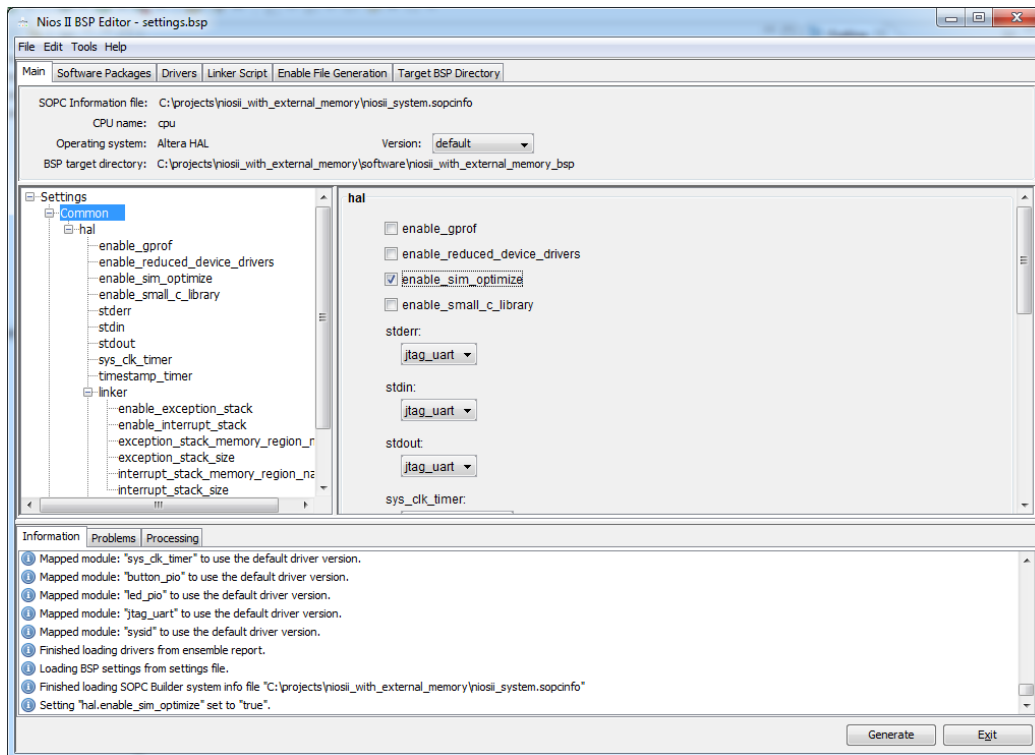

Figure 1 – Selecting "enable\_sim\_optimize" to optimize the simulation for external memory.
1. Right-click on **niosii\_with\_external\_memory\_bsp** in the Project Explorer and select **Nios II > BSP Editor....** As shown in Figure 1, the BSP Editor will open with the Main tab selected and **Settings > Common** selected from the hierarchy on the left side of the window.
2. As shown in Figure 1, check the box next to the **enable\_sim\_optimize** option.